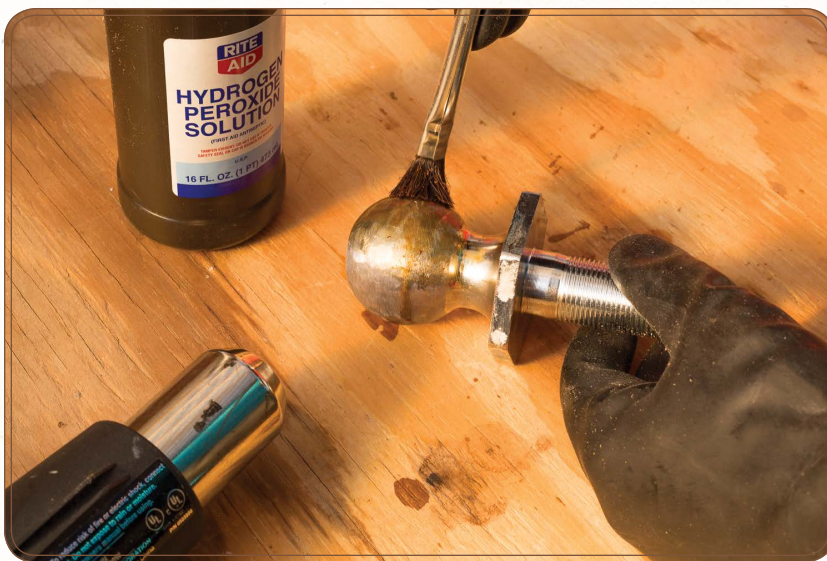

Figure 6.6: Applying hydrogen peroxide while heating the surface with a hot air gun
8. You can speed up the oxidation process by applying heat from a hot air gun (see Figure 6.6). If you do this, don't touch the metal until it has cooled.